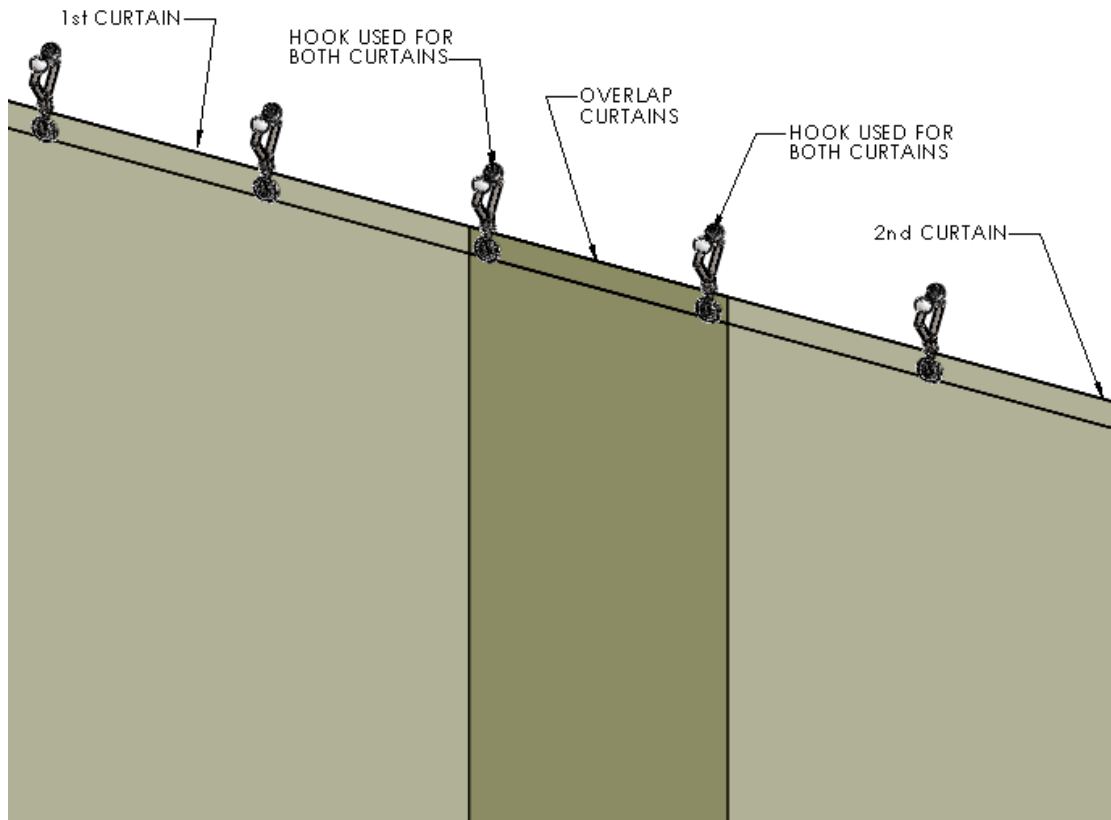

Figure 4 Overlap - Multiple Curtain Assembly
The 2nd Curtain will share the last two (2) Trollies of the 1st Curtain. (Figure 4 Overlap - Multiple Curtain Assembly)